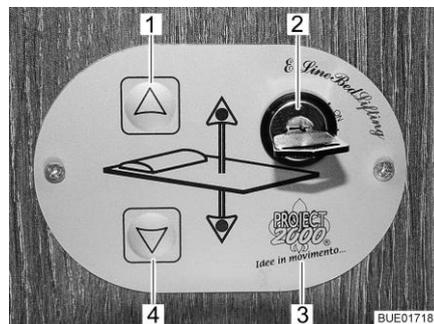

Fig. 95 Control unit
The pull-down bed is raised or lowered using the buttons (Fig. 95,1 and 4) on the control unit (Fig. 95,3). The control unit is protected against unauthorized use with the key switch (Fig. 95,2).
- Turn the key in the key switch (Fig. 95,2) by 90° in a clockwise direction to position "On". The control unit (Fig. 95,3) is activated.
- Press the arrow key (Fig. 95,4) and keep it pressed until the pull-down bed has moved down into the desired position.
- Press the arrow key (Fig. 95,1) and keep it pressed until the pull-down bed has moved down into the final upper position.